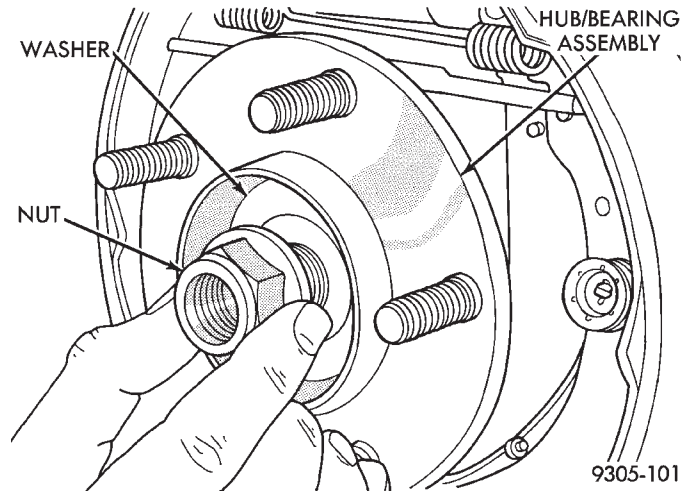

Fig. 5 Rear Hub And Bearing Retaining Nut Removal
(2) Remove the rear hub and bearing assembly retaining nut and washer (Fig. 5). Remove rear hub and bearing assembly from spindle.